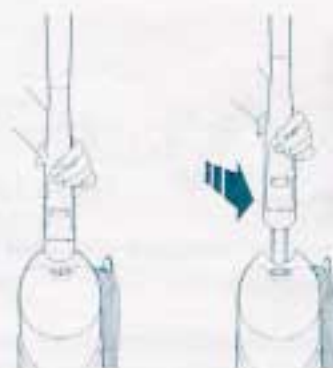

Figure 9a
2. Then, just squeeze the Wand Release Button located at the front of the handle, pull out the Cleaning Wand (Figure 9a) and pick any of the on-board attachments you want to use. The attachments fit right into the handle end. (Figure 9b)